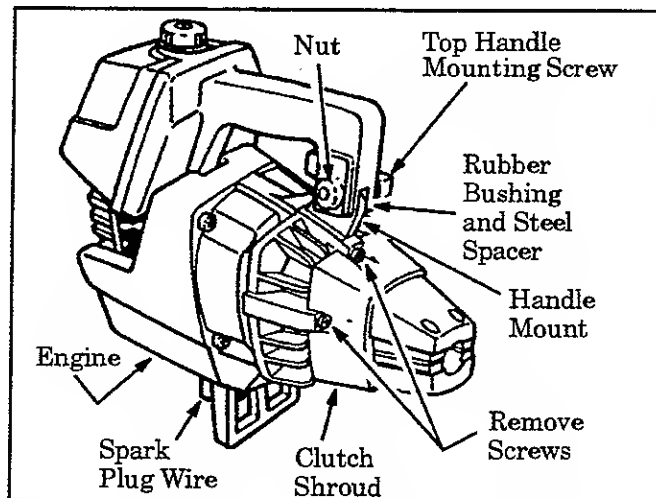

Figure 31
1. Disconnect spark plug wire. Figure 31.
2. Remove the four clutch shroud screws with the small hex wrench provided. Figure 31.
3. Remove the top handle mounting screw and nut, and remove the steel spacer from the rubber bushing on the handle mount. Figure 31.
4. Separate clutch shroud from engine. Figure 31.